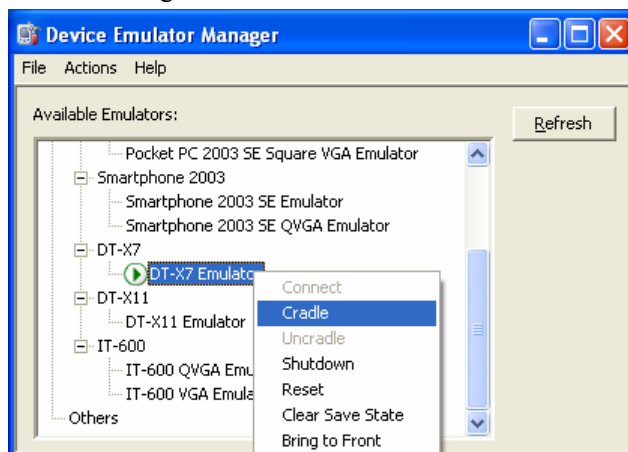

Figure 7.15
4. Make sure ActiveSync has started up and the  icon in the status bar appears. See the emulated screen of DT-X7 in Figure 7.15. The icon indicates that the connection via ActiveSync has been established.